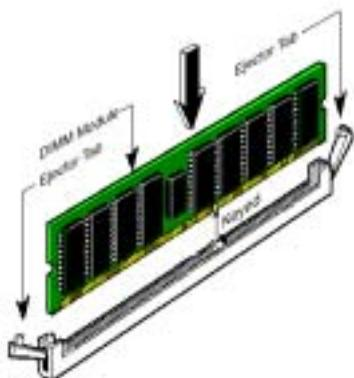

Figure 2-6. DDR DIMM module installation
**Step 5.** Insert the DDR DIMM module into the expansion socket as shown in the illustration. Note how the module is keyed to the socket. You can refer to Figure 2-6 for the details. ***This insures the DDR DIMM module will be plugged into the socket in one way only.*** Firmly press the DDR DIMM module into DDR DIMM socket, making certain the module is completely seated in the DDR DIMM socket.